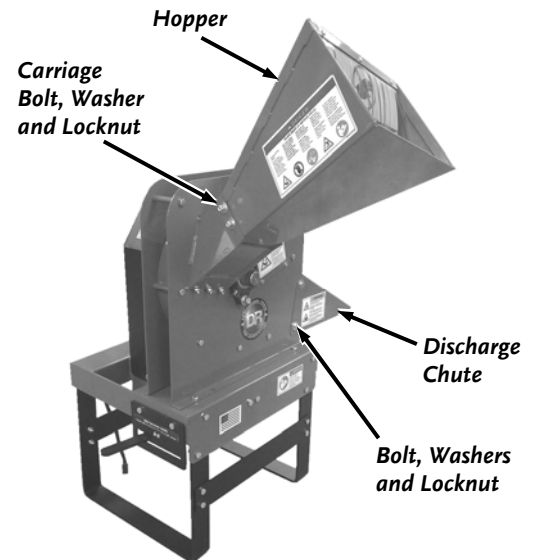

Figure 8
- Position the Discharge Chute on the side of the chipper and secure with two Bolts, four Washers (one on each side), and two Locknuts using two 1/2" wrenches (**Figure 8**).